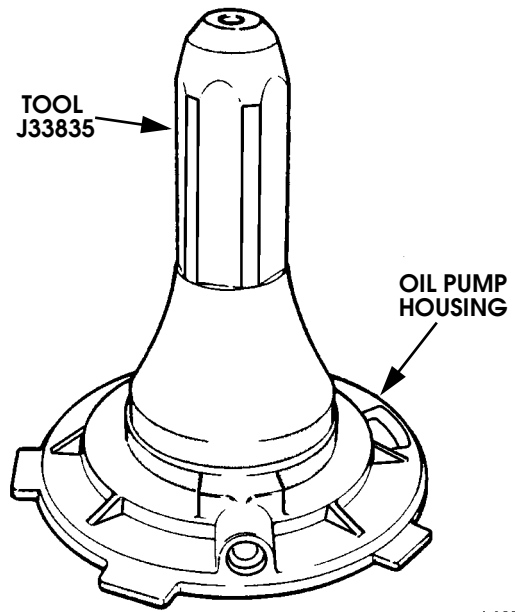

Figure 5-161: Oil Pump Seal Installation
- 28. Install new seal in oil pump with tool J33835 (Figure 5-161).